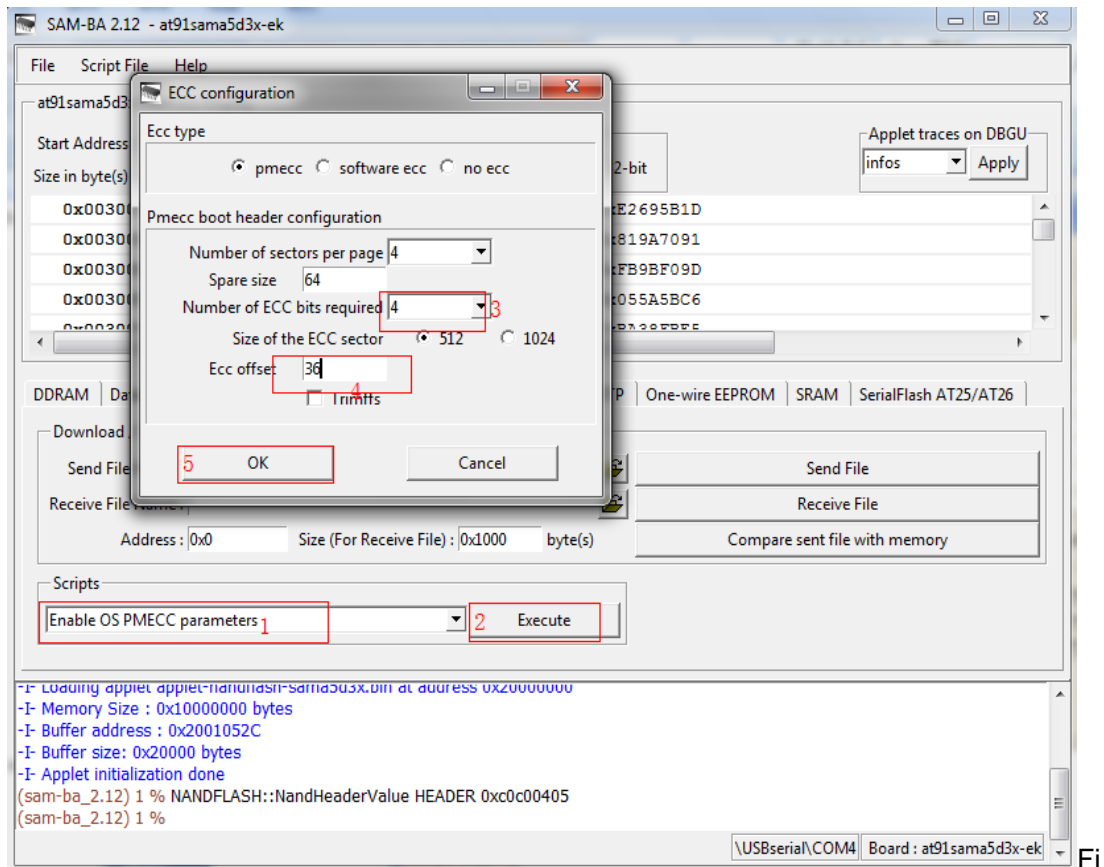

Figure 4-8
(4) Select Enable OS PMECC parameters in Scripts tab, then click Execute, using the default option, click “OK” directly (Note: there cannot check Trimffs). Refer to figure 4-8: